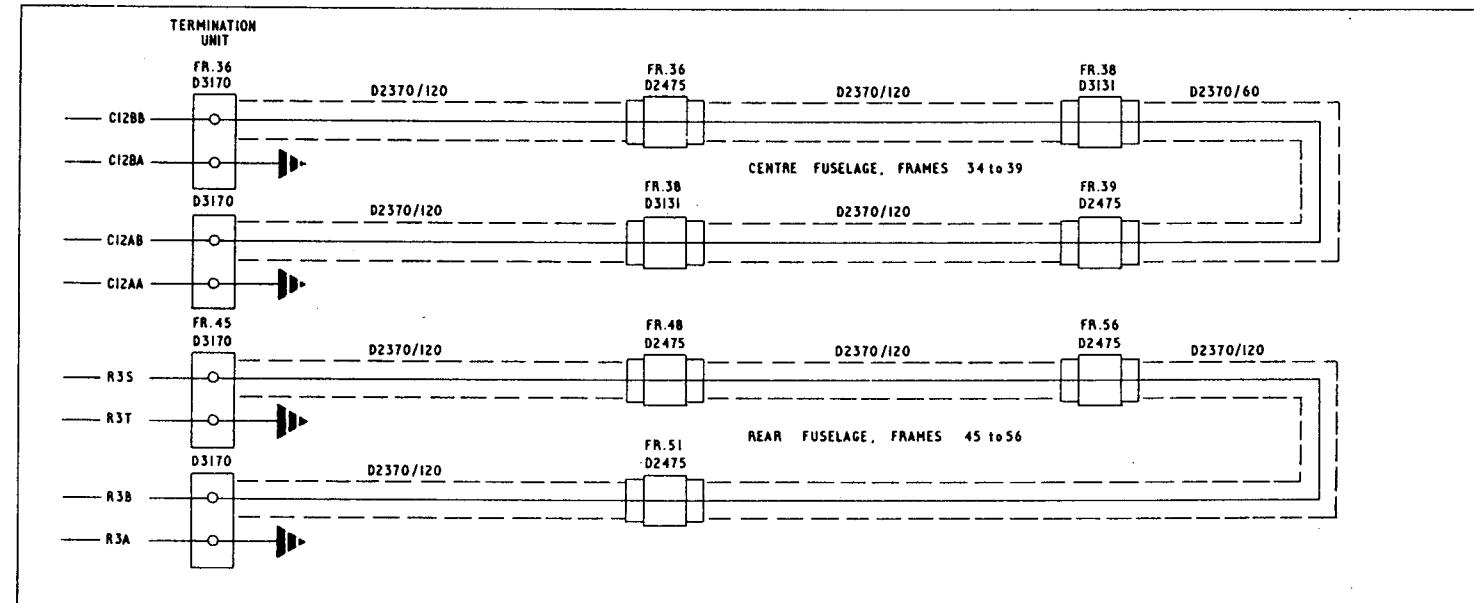

Fig. 3 Details of Firewire sensing elements installation (Post Mod.960)
20. Figure 3 gives the details and location of the sensing elements, coupling units and termination fittings, and is provided to assist when using Graviner Test Set T1580-02.